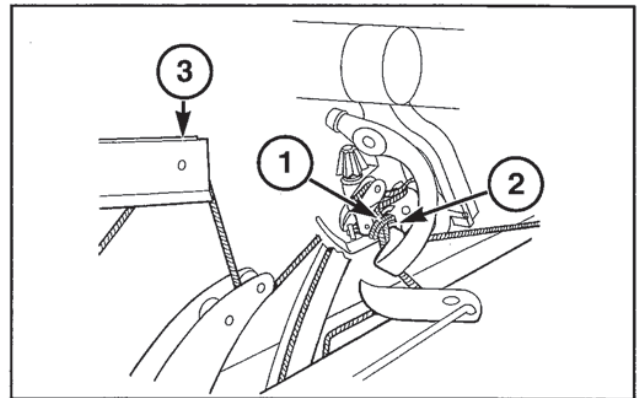

FIG. 8
FIG: 8: The billhook continues to rotate approximately 180 degrees while the billhook tongue (1) raises to receive the twine ends. The needle begins the down stroke, putting both twines in the next twine disc recess where the twines will be held for the second knot. The twine disc has finished the rotation and the twine is in position to be cut by the twine knife (2). as the needle moves down past the twine disc, the upper slacker arm (3) moves up. The upper slacker arms keep tension on the top twine, so the top twine will be in position for the second knot to be formed.